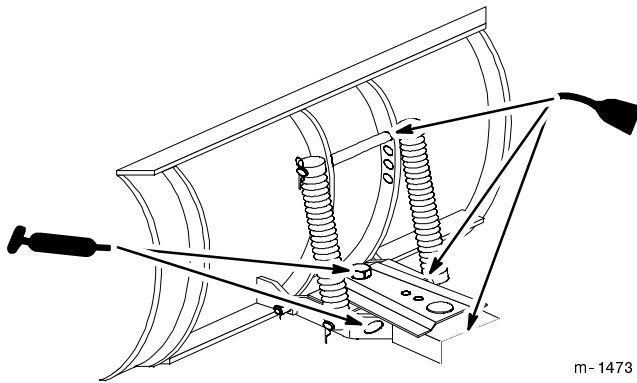

Figure 22
3. Clean the area around the channel pivot with a rag. Apply grease to the pivot bolt, frame and sector (Fig. 22).
2. Place a few drops of oil on all movable linkages (Fig. 22).